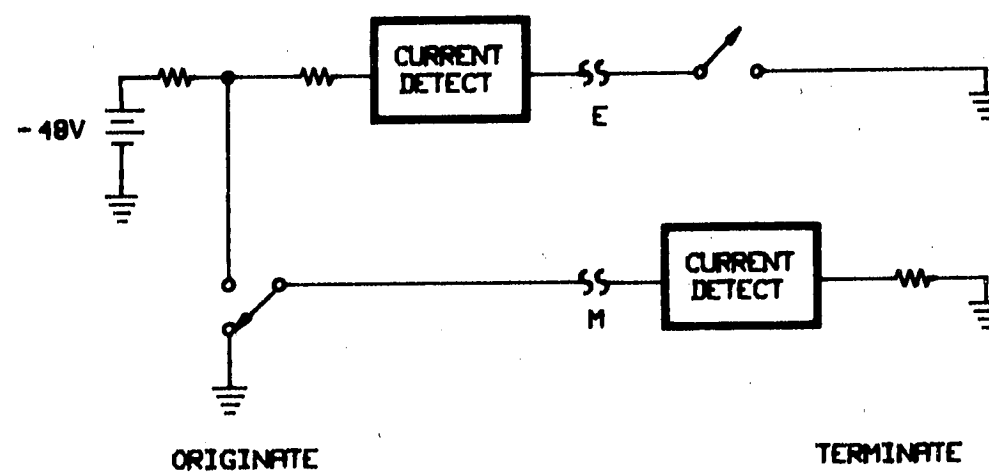

Figure 3-5. E/M Type I Signaling
3-38. E/M signaling is used primarily to signal the internal switching of the PBX or shorthaul trunks between two PBXs. E/M signaling uses a separate wire pair to send signaling information (E lead and M lead) from the pair used to send voiceband information (tip and ring). In addition, E/M Types II and III use sense ground (SG) and sense battery (SB) leads to improve signaling performance. (see figures 3-5, 3-6, and 3-7)